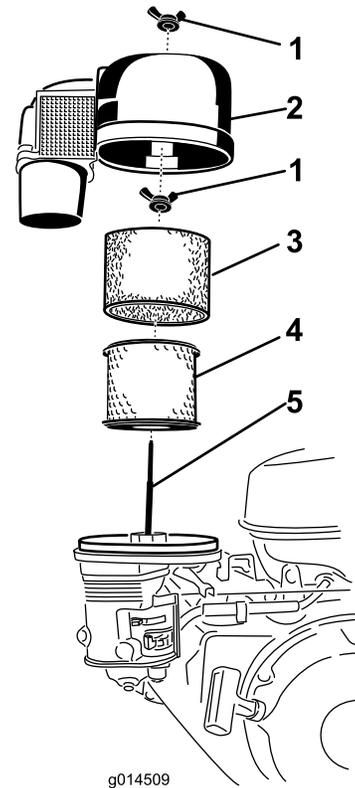

Figure 13
3. Remove the wing nut and lift off the air-cleaner cover with the air-filter cowling (Figure 13).
4. Remove the foam element (Figure 13).
5. Remove the wing nut on top of the paper element and remove the paper element (Figure 13).